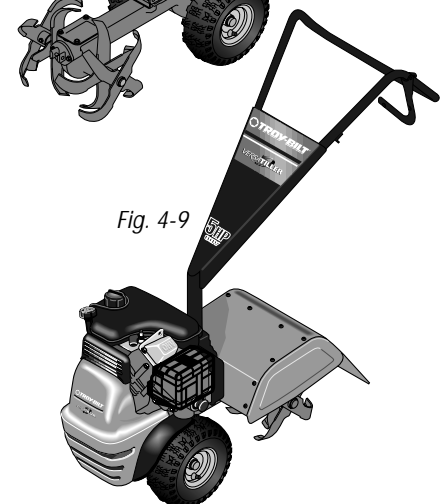

Fig. 4-9
4. Swivel the handlebar around on the engine muffler cage side of the equipment 180° to position it over the tine hood. Push the locking lever down. This is the rear tine tiller mode. See Fig. 4-9.